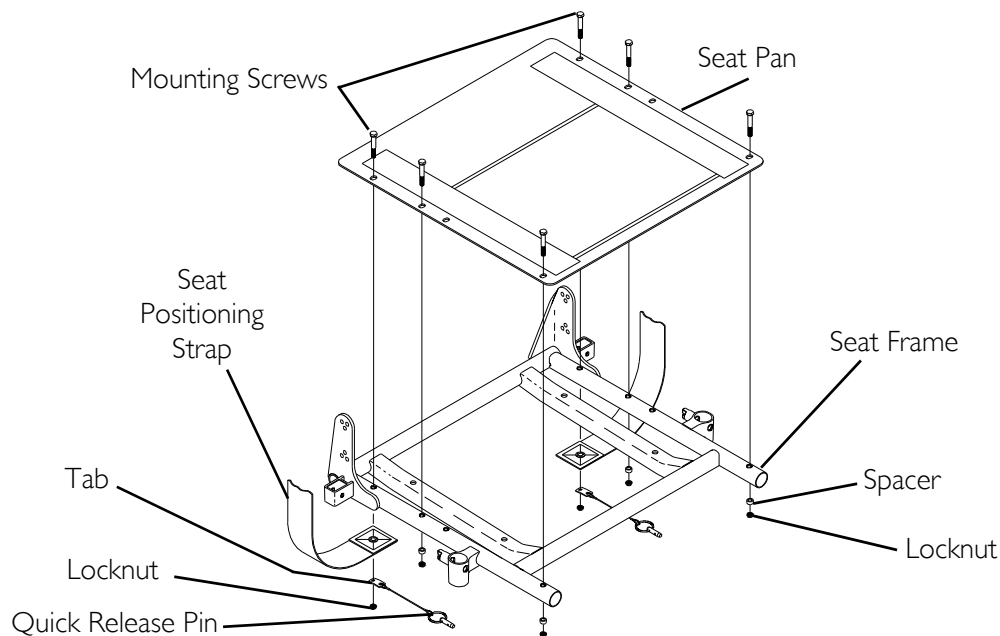

FIGURE 4.6 Removing/Installing the Seat Pan
NOTE: For this procedure, refer to FIGURE 4.6.
3. Remove the four mounting screws, locknuts and four spacers securing the seat pan to the seat frame (FIGURE 4.6).